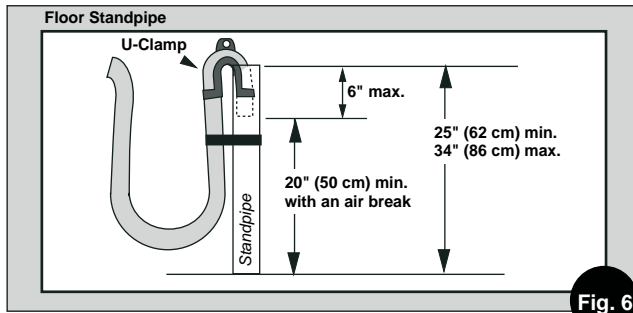

Fig. 6
It is possible for the water to be discharged into a sink, standpipe or drainpipe, but an air break must be available at a min. 20" height to prevent the machine from siphoning (Fig. 6).
- Insert the outlet end of the drain hose into the standpipe, wall or floor drain (Fig. 6). NOTE: The outlet end of the drain hose MUST be at least 20" (50 cm) above the base of the machine. No more than 6" of the drain hose should be inserted into the drain pipe to prevent siphoning.